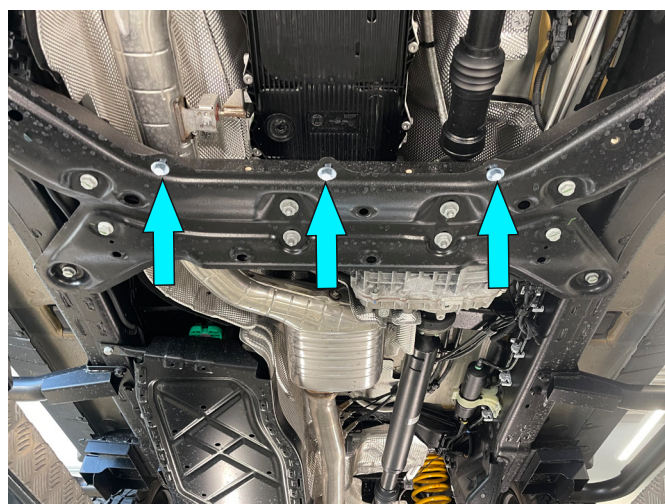

Fig. 8
6. Loosely install M10x30 bolts with M10 washers (items B, E) into insert nuts from step 5 as shown in Fig. 8.